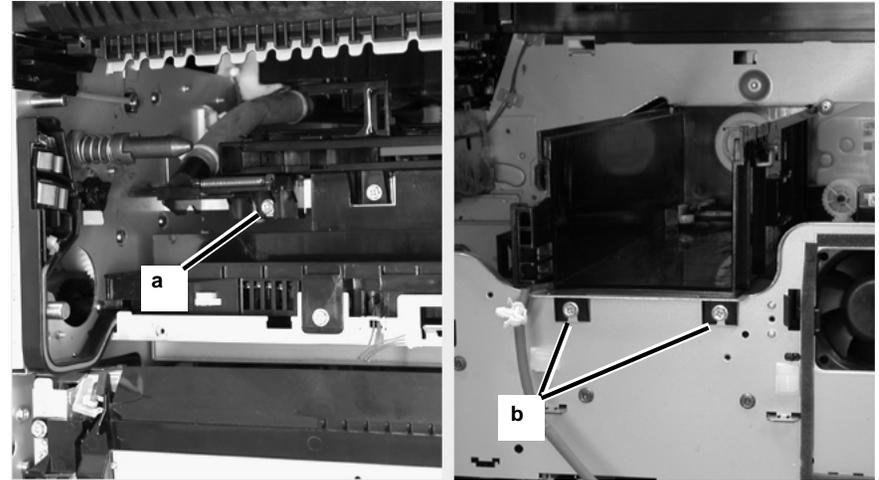

Figure 14 Removing Screws
16. Remove the Toner Cartridge Guide (Figure 14).
- a. On the left rear, remove the Dispenser Tube Screw (1).
- b. Loosen the front Screws (2).